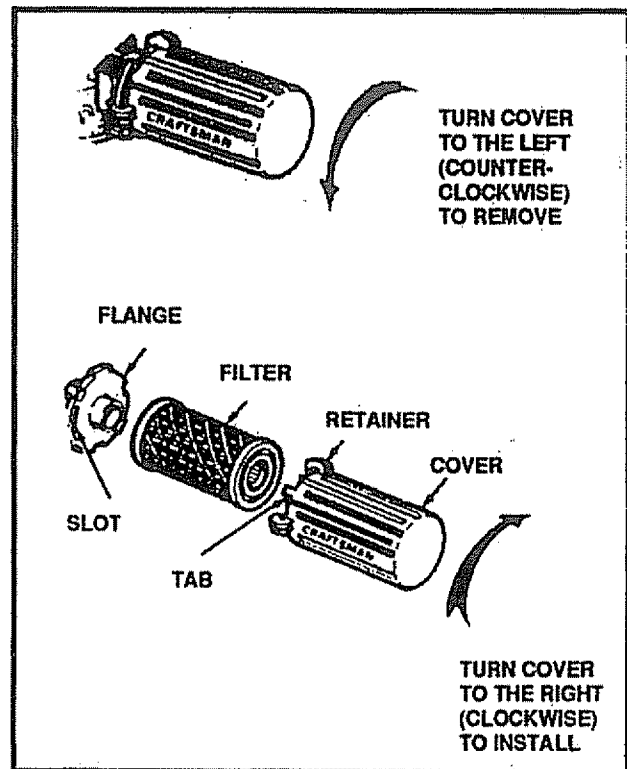

FIG. 9
- Turn the cover (See Fig. 9) to the left (counterclockwise) and remove the cover and the air filter from the flange.
- Push the cover firmly against the flange and turn it to the right (clockwise) as far as it will go (See Fig. 9. Be sure the retainers are locked around the flange.